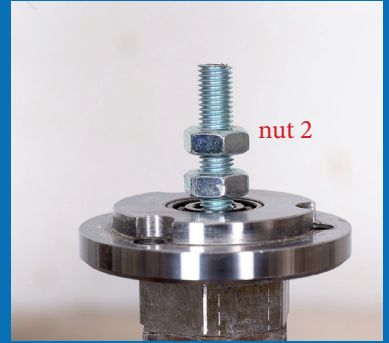

figure 2
Screw nut (2) on and counter tightly with nut (1). See figure 2.